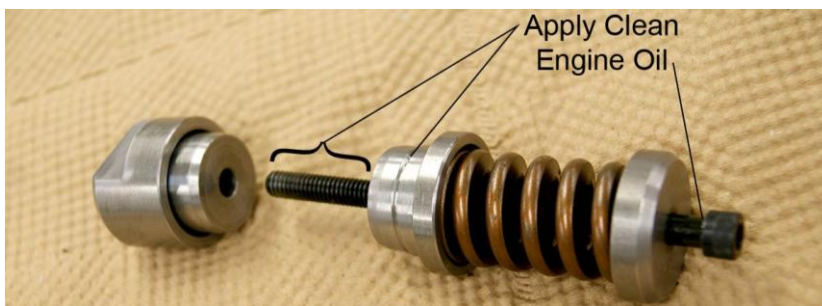

Figure 4
3. Apply a coating of clean engine oil to the threads of the bolt, the shoulder on the center section, and under the head of the bolt of the ST-531 (Figure 4).